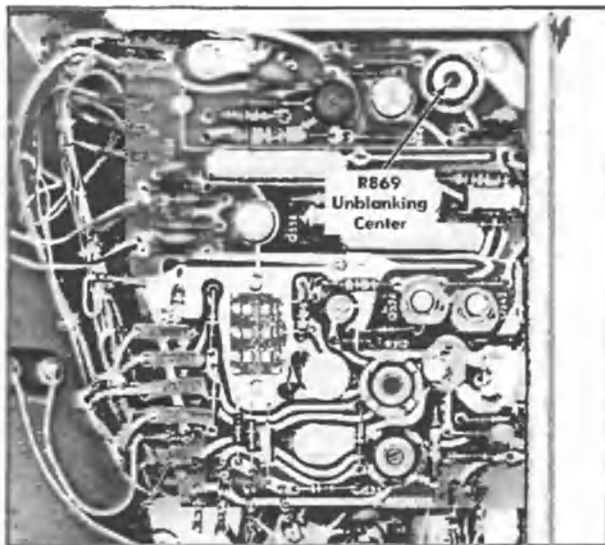

Fig. 6-8. Location of Unblanking Center adjustment (Horizontal Amplifier board).
k. Return autotransformer output voltage to 115 (230) volts. (If the line voltage is near 115 (230) volts, the instrument may be connected directly to the line; otherwise, leave the instrument connected directly to the autotransformer for the remainder of this procedure).
c. ADJUST—Unblanking Center adjustment, R869 (see Fig. 6-8), for maximum trace intensity. This should occur near the center of control rotation.